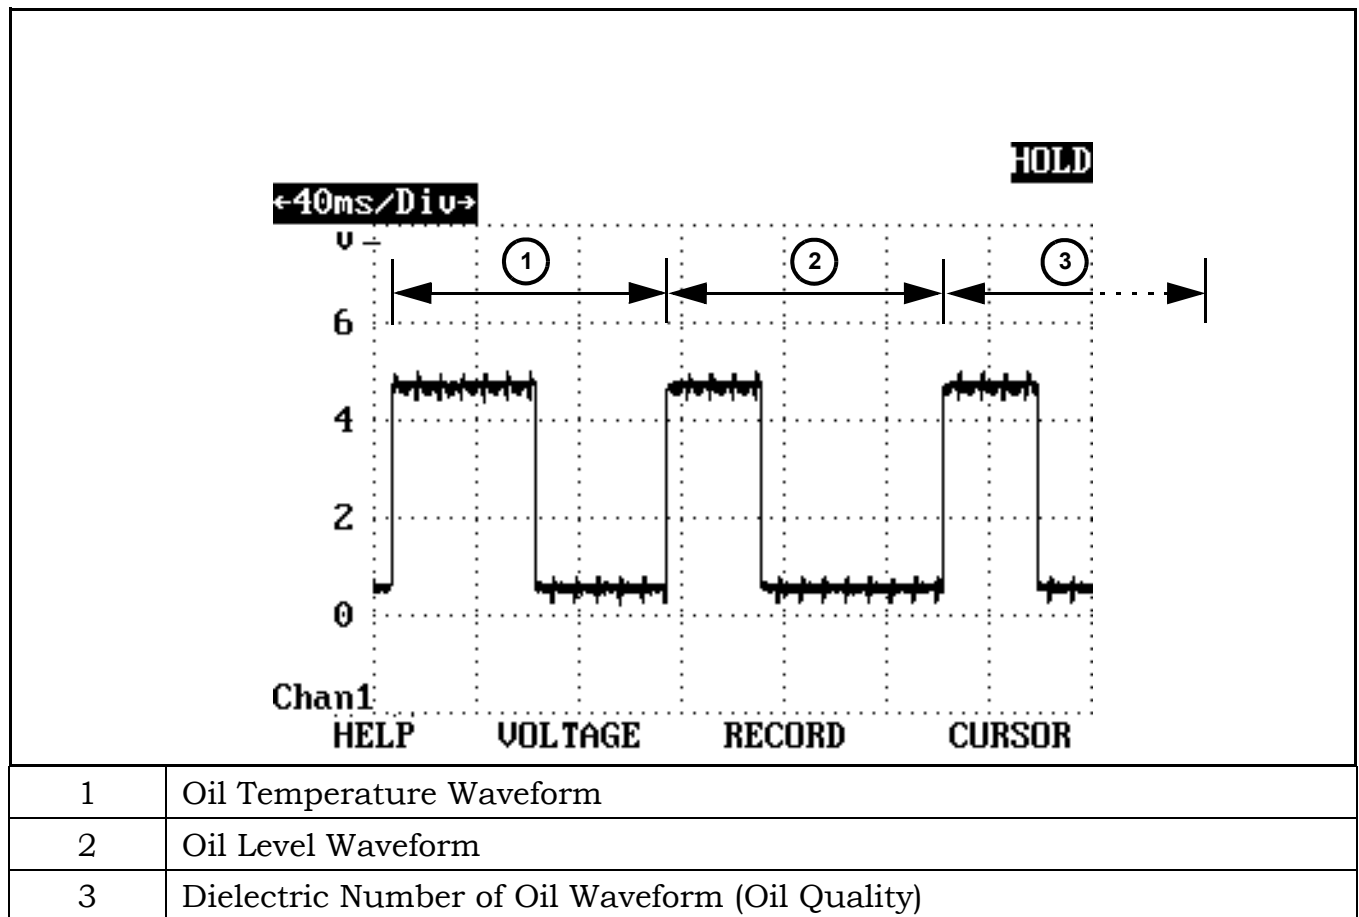

Figure 228 Oil Sensor Signal
Figure 228 shows the pattern of the oil sensor. The first waveform (1) represents the oil temperature. The duty-cycle lower limit is 20%, which indicates an oil temperature of -40°. The upper limit is 80%, which indicates an oil temperature above 160°C.